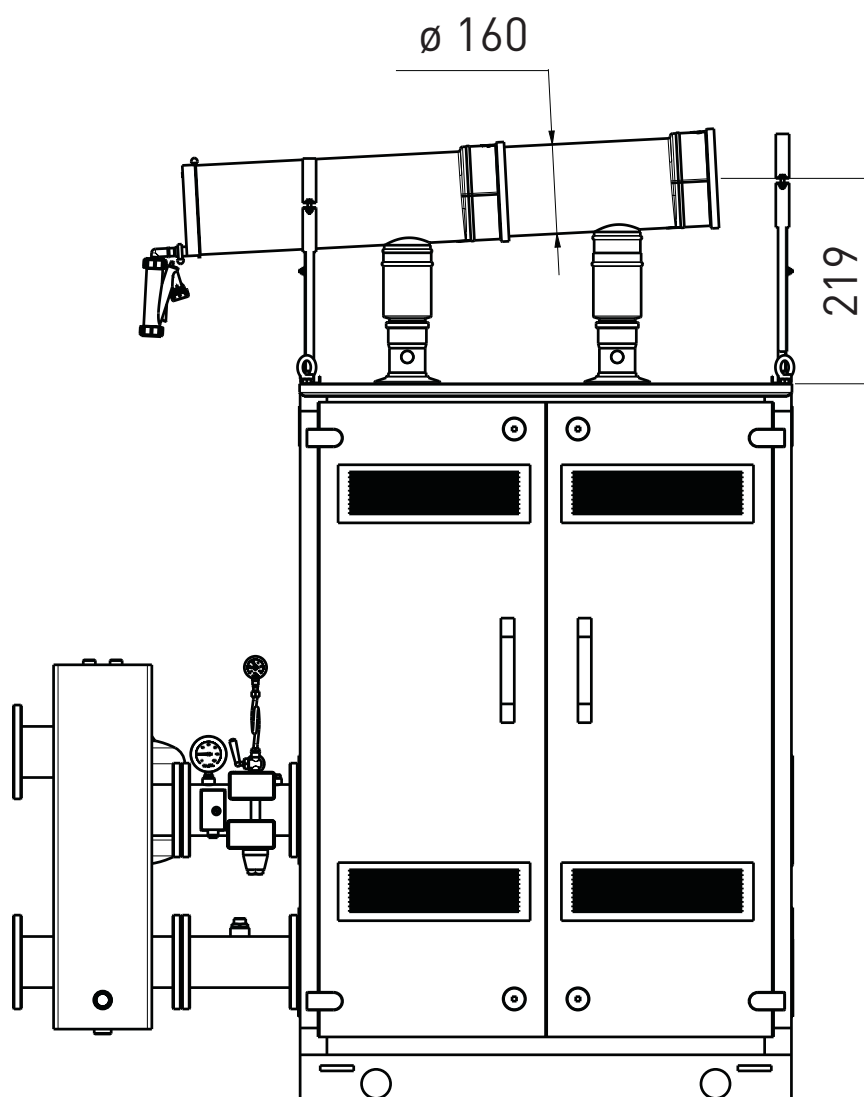

Fig. 6
2.7 INDOOR INSTALLATION EXHAUST KIT (fig. 6)
Refer to fig. 6 for this type of installation.